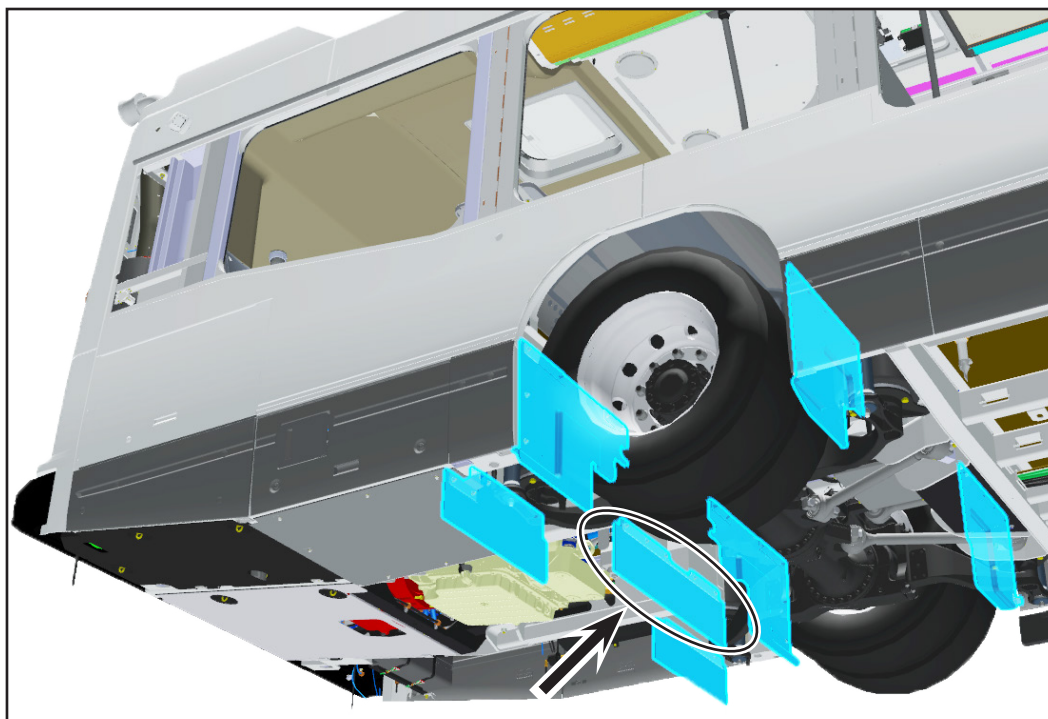

Figure 14 - Remove the Center Mud Flap
- 1.68. Remove the center mud flap (may be reinstalled for the winter months). See Figure 14.